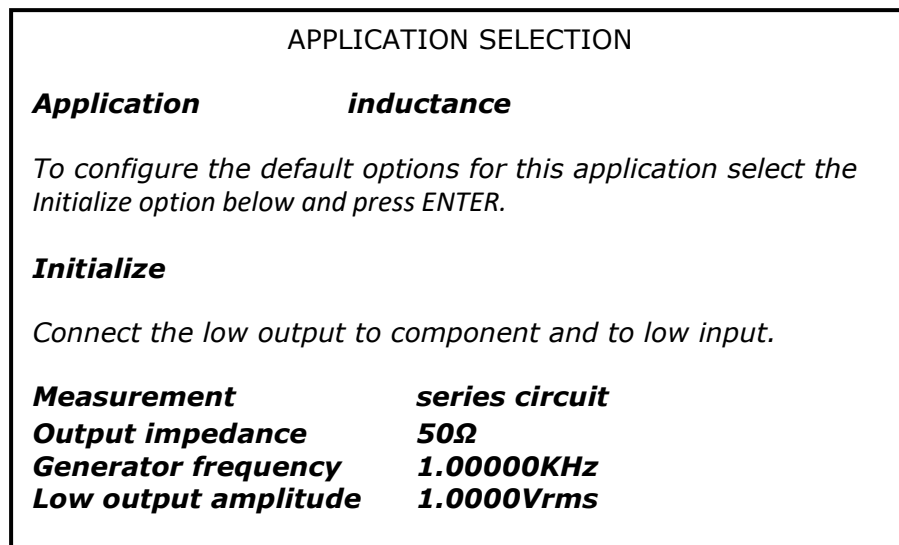

Figure 15.1
- 15 APP KEY** – This function allows the main default setup of the application option selected. Figure 15.1 shows what appears when the “Inductance” option is selected.